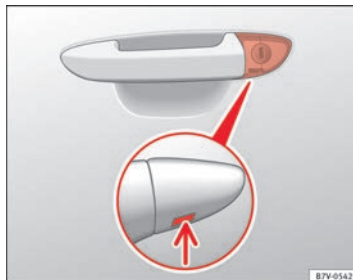

Fig. 190 Driver door handle: Hidden lock cylinder
- Insert the key shaft into the opening in the cover on the driver door handle from below ⇒ Fig. 190 (arrow) then remove the cover upwards.